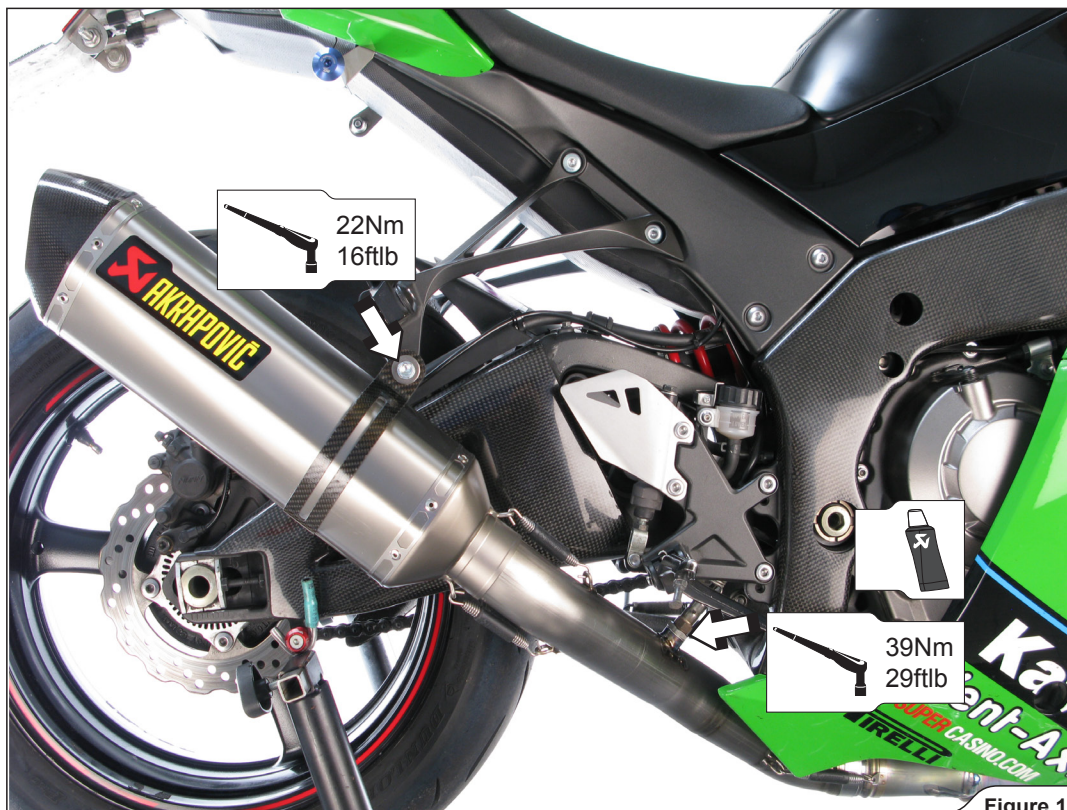

Figure 17
- Align the muffler in respect to the motorcycle and tighten the muffler clamp and lambda sensor to the specified torques (Figure 17).